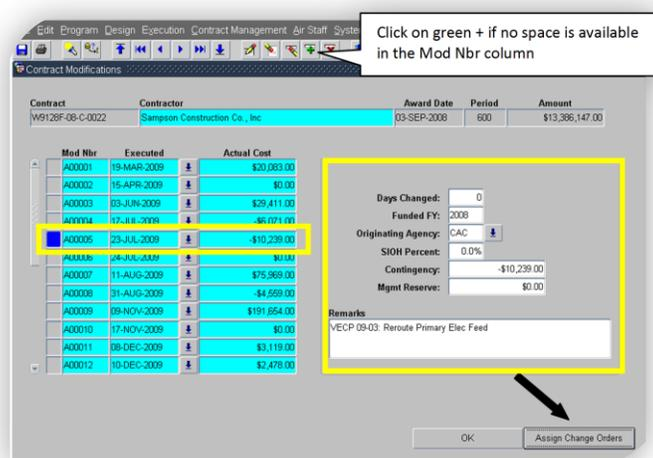

Figure 3.23c. Contract Modifications
B. Managing Modifications – Once a change order is included in a contract modification, navigate to the Contracts screen, select the Modifications button, and enter the data for all fields and assign the change order(s) to the modification (Figure 3.23c).